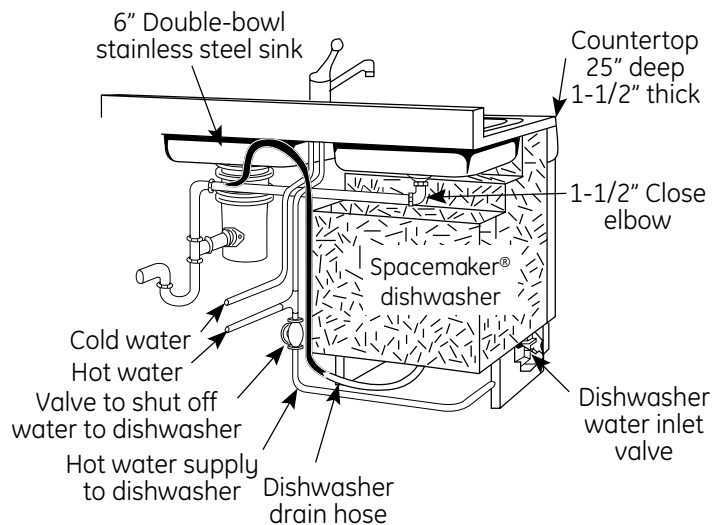

Figure F1
- Sink opening for garbage disposer must be dimensioned as shown (7-1/2") in Area "C." This will provide clearance for disposer and plumbing in Area "C" when using either single or double bowl sink. Refer to Figure A below and Figure F1 on page 6.
Sink faucet hot and cold water lines and the sink drain line must run above and adjacent to the dishwasher, not behind it. Refer to Areas A and C in Figure A on page 3 and Figure F1 below. This is necessary to provide clearance for the dishwasher when it is installed in the cabinet. Utility lines routed directly behind the dishwasher will interfere with placement of the dishwasher in the cabinet and cause it to extend beyond the adjacent cabinets.
Figure F1 illustrates an installation using a double bowl sink, a disposer and a high drain loop.